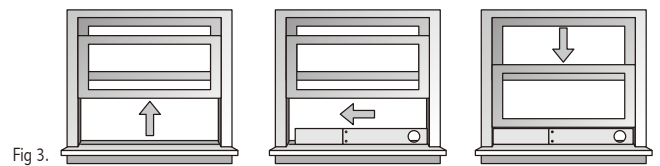

Fig 3.
C. Install the Window Slider Kit : Fig 3.